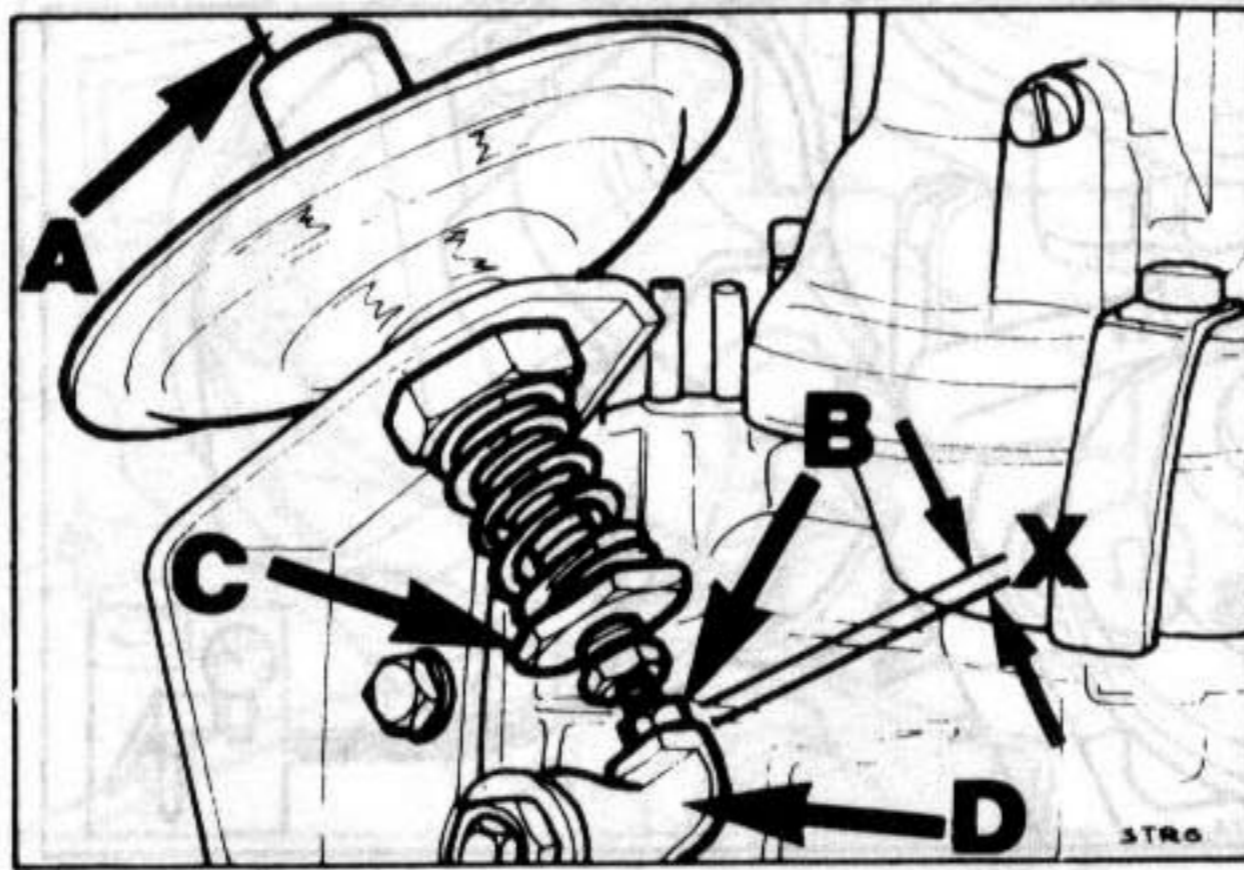

Fig. 7 Vacuum governor adjustment
2.6 Vacuum Governor (Fig. 7)
- a) Disconnect vacuum hose (A, Fig. 7) and check engine speed rises as per specification.
- b) If necessary, adjust speed by turning screw (B).
- c) Reconnect vacuum hose (D) and check clearance (X).
- d) If necessary, adjust clearance by means of large adjusting nut (C) at lower end of compression spring.
- f) If necessary, readjust idle speed with nut (C).